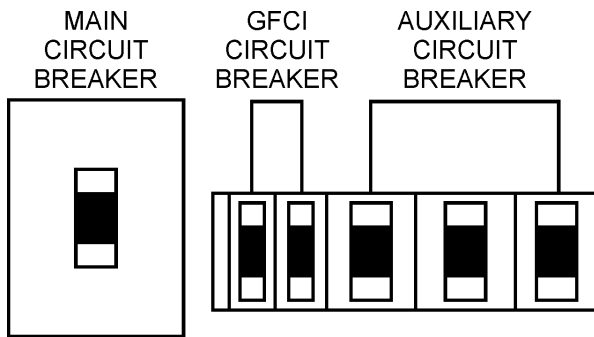

Figure 37. Main, Aux. and GFCI Circuit Breakers (OFF)
1. Place the **main, G.F.C.I.,** and **aux.** circuit breakers (Figure 37) in the **OFF** position prior to starting the engine.